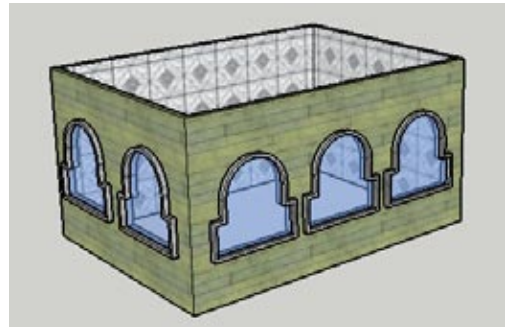

Figure 7-62
11. Explode all of the window components. This reduces each window to its two nested components, which are both set to cut faces. Therefore, the front and back faces are simultaneously cut (Figure 7-62).